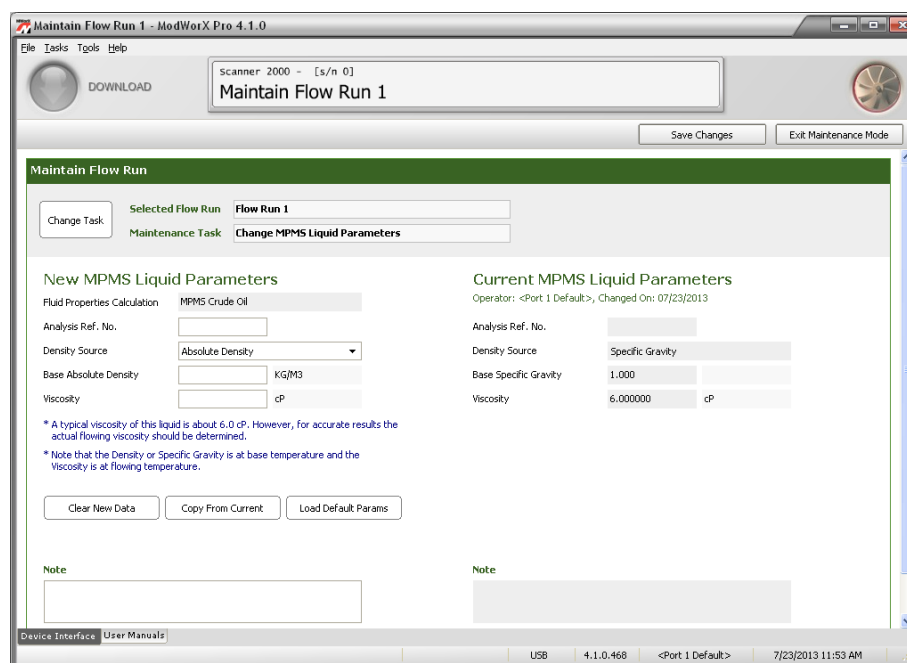

Figure 11.12
- b. Click **OK** to save the settings and return to the Maintain Flow Run screen (Figure 11.12, page 171).